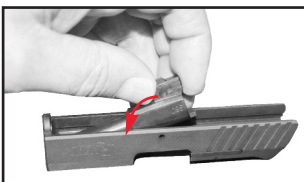

Figure 33
5. Insert the Barrel into the Slide. See Figure 33.